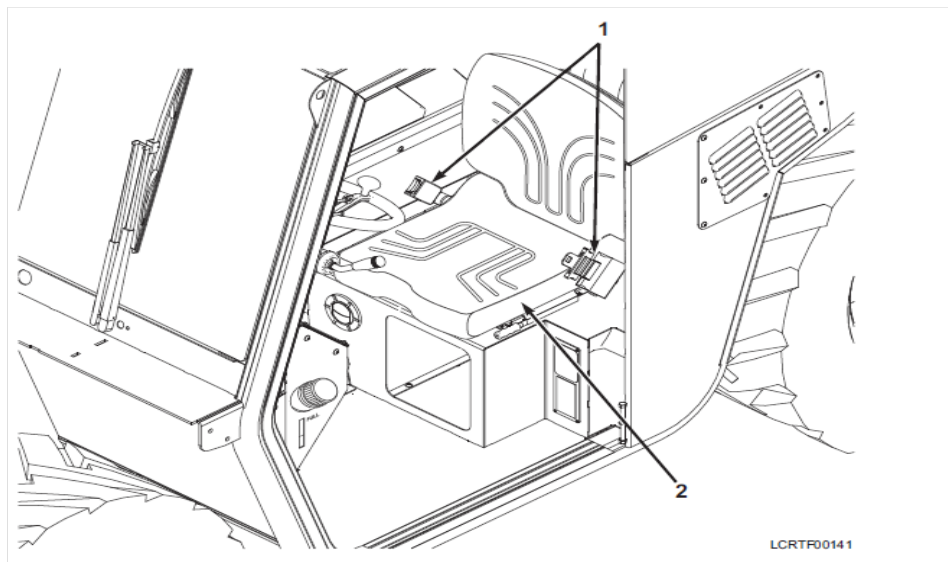

Figure 3-58
- b. Fasten seat belt (see Figure 3-58, Item 1).
- c. Adjust operator seat so that when seat belt is buckled, foot pedals can still be operated (see Figure 3-58, Item 2).